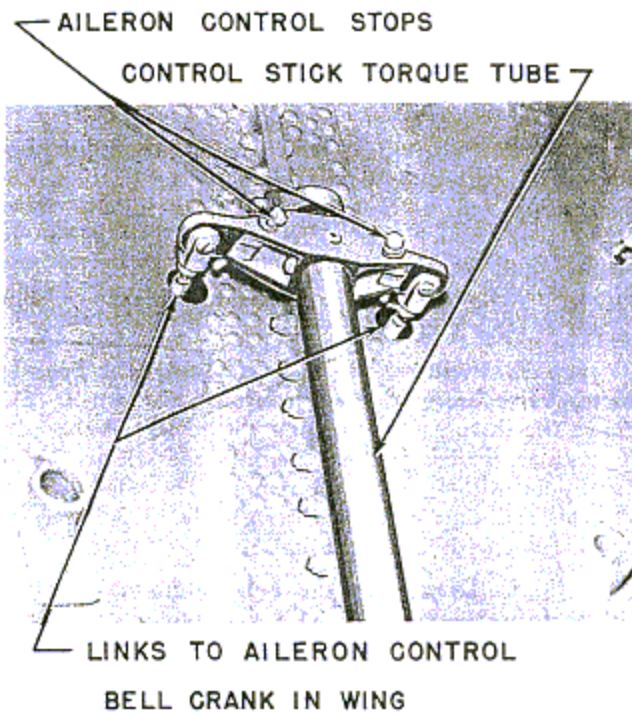

Figure 70—Control Stick Torque Tube
22. Disconnect the links at the aileron control arm on the torque tube. (See figure 70.)
4. Connect the links between the aileron bellcranks in the wing and the torque tube arm at the arm on the torque tube. (See figure 70.)